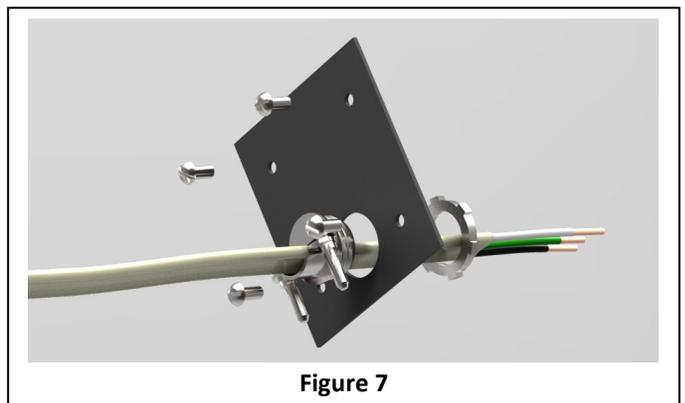

Figure 7
Step 9. Attach a ½" Romex Connector (*not included*) into the hole of the conduit plate and secure tightly with nut on reverse side. (Fig. 7) Insert Romex cable through connector and tighten screws. Strip ends of Romex cable. Using supplied wire connectors, connect black fixture wire to the hot supply wire (typically black); connect white fixture wire to the neutral supply wire (typically white); connect the copper fixture wire to the ground wire or ground terminal at the outlet box. Push connections inside of fixture and re-install plate with the screws that were previously removed. Re-install back cover plate.